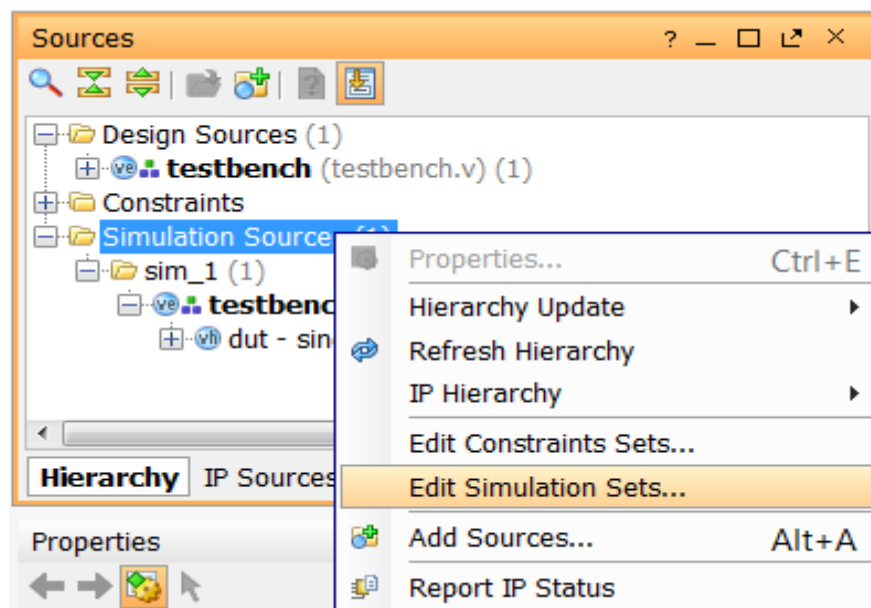

Figure 2-5: **Edit Simulation Sets Option**
1. In the Sources window popup menu, select **Simulation Sources > Edit Simulation Sets**, as shown in Figure 2-5.